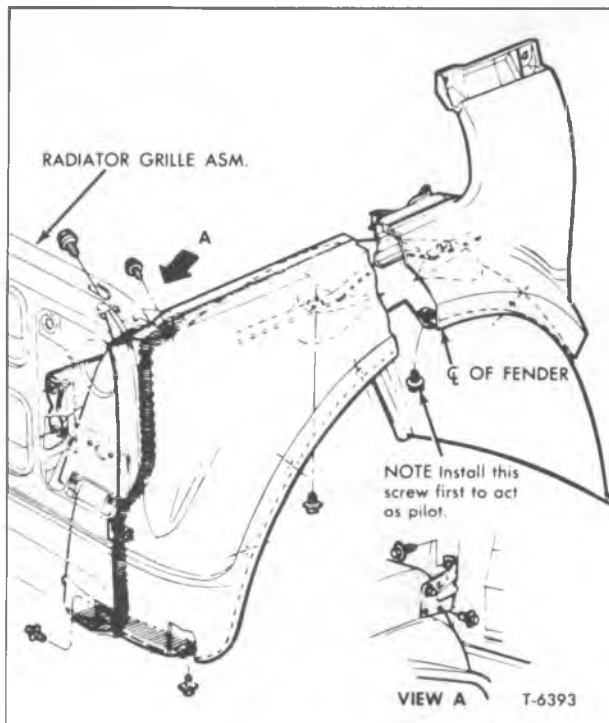

Figure 12—Fender to Grille Attachment
11. Remove three bolts fastening gusset to fender and grille (fig. 12).
To install, reverse the "Removal" procedure, using sealing tape between filler panel and fender to assure complete seal (fig. 12). Check sheet metal alignment.
Reinstall in reverse order of "Removal" procedure. Note condition of tape sealing of fender skirt flange. Replace if necessary. Refer to "Note" on figure 12 to install pilot screw.